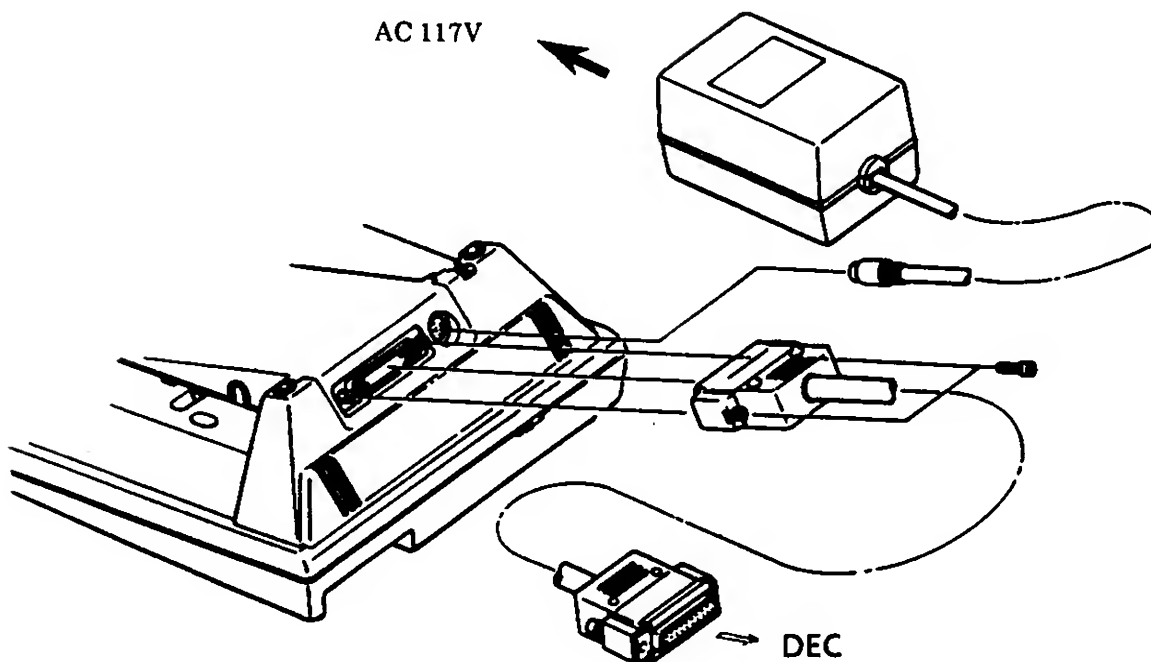

Fig. 260-6 Connection of DTE-DTA-E Unit
**B.2** Connect one end of a locally provided RS-232C straight cable to the RS-232C connector of the DTA-E unit. Refer to Figure 260.6.
**B.3** Secure the RS-232C connector with screws provided with the RS-232C cable as shown in Figure 260.6.